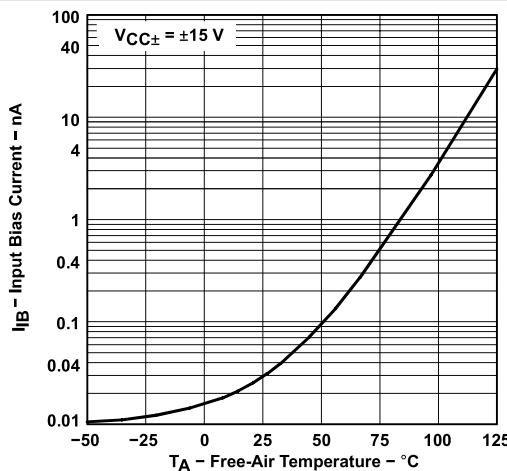

Figure 6-12. Input Bias Current vs Free-Air Temperature
- (1) All characteristics are measured under open-loop conditions with zero common-mode input voltage unless otherwise specified. Full range for T_A is $0^\circ C$ to $70^\circ C$ for TL06xC, TL06xAC, and TL06xBC and $-40^\circ C$ to $85^\circ C$ for TL06xl.
- (2) Input bias currents of an FET-input operational amplifier are normal junction reverse currents, which are temperature sensitive, as shown in Figure 6-12. Pulse techniques are used to maintain the junction temperature as close to the ambient temperature as possible.
- (3) Specified by design and characterization; not production tested.
- (1) All characteristics are measured under open-loop conditions with zero common-mode input voltage, unless otherwise specified. Full range for T_A is $0^\circ C$ to $70^\circ C$ for TL06xC, TL06xAC, and TL06xBC and $-40^\circ C$ to $85^\circ C$ for TL06xl.
- (3) Assured by design and characterization; not production tested.
(1) This parameter is not production tested.
(2) All characteristics are measured under open-loop conditions, with zero common-mode voltage, unless otherwise specified.
(3) Input bias currents of an FET-input operational amplifier are normal junction reverse currents, which are temperature sensitive, as shown in Figure 6-12. Pulse techniques are used to maintain the junction temperature as close to the ambient temperature as possible.
(4) Specified by design and characterization; not production tested.